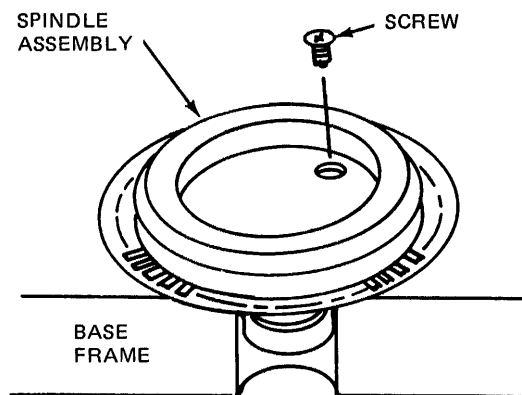

Figure 4-15 Removing the Spindle Assembly
- d. Remove the two screws (see Figure 4-15) and lift the spindle assembly out of the base frame.